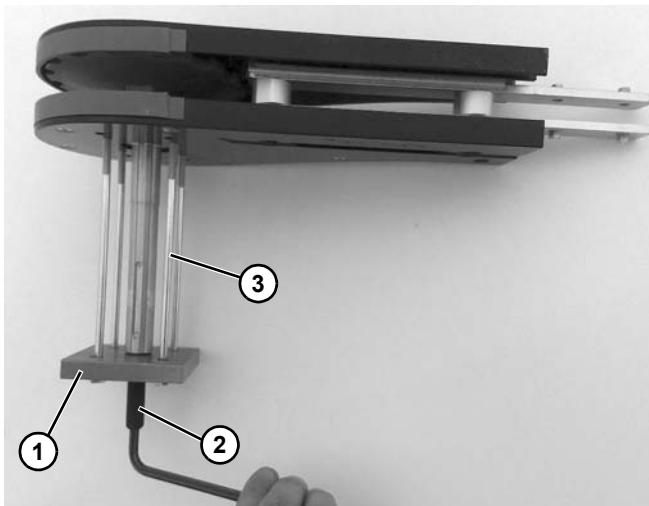
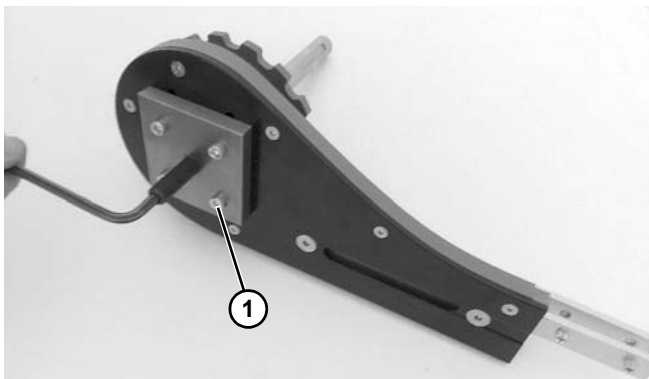

Figure 127
Figure 128
6. Use the bearing tool (**Figure 127, item 1**) to unseat bearings by inserting the four screws and turning the threaded rod (**Figure 127, item 2**) to push bearing out. NOTE: Insert the longer screws (**Figure 127, item 3**) on the drive shaft side and the shorter screws (**Figure 128, item 1**) on the non-shaft side.